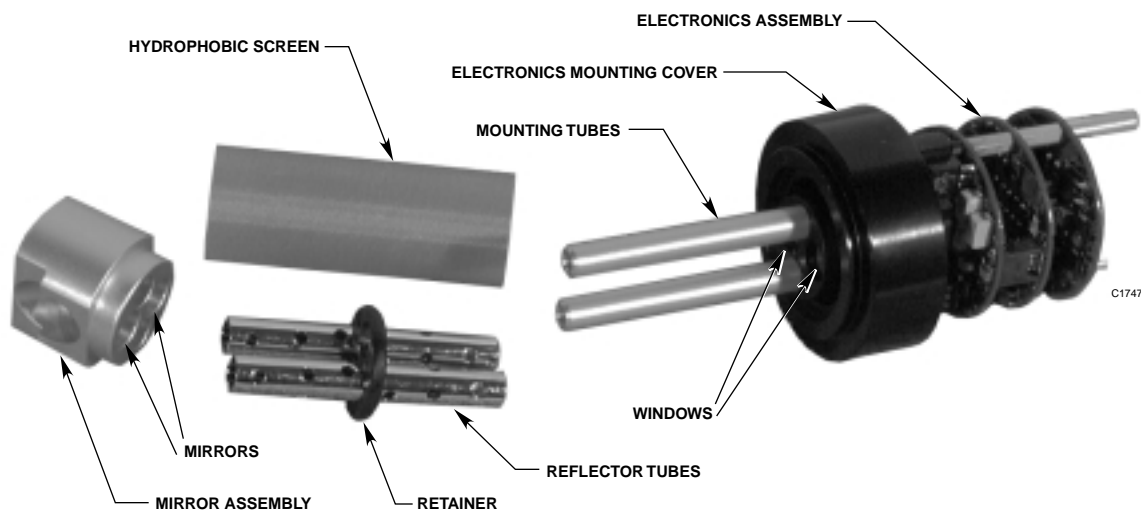
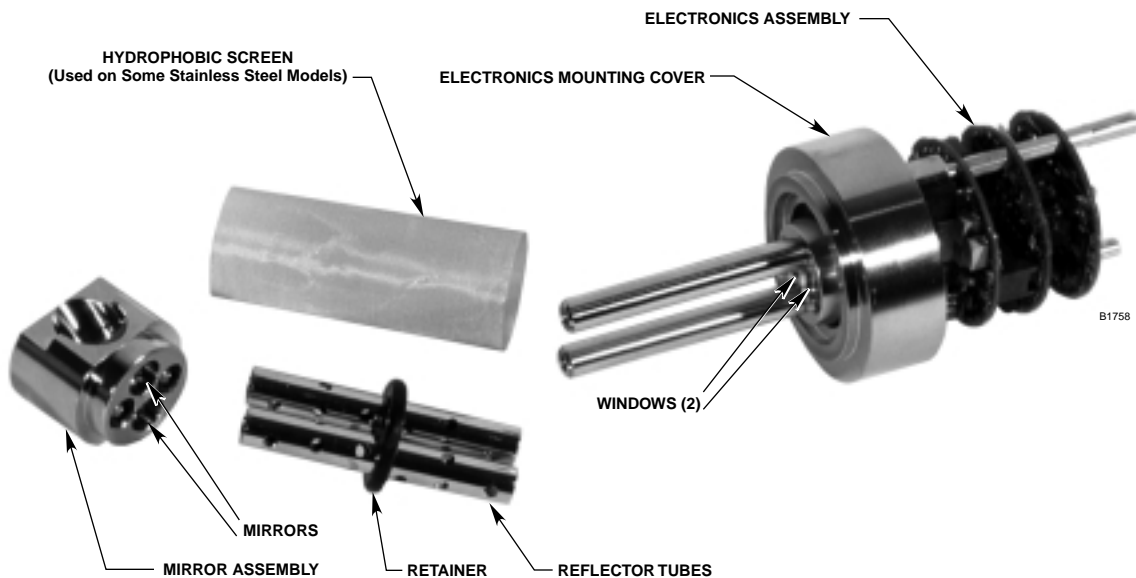

Figure 24—Aluminum PointWatch Detector Disassembly for Cleaning
Figure 25—Stainless Steel PointWatch Detector Disassembly for Cleaning
3. Slide the electronics mounting cover back to the base of the mirror assembly and pull the IR module out of the base as shown in Figure 13. Do not grasp the hydrophobic screen (if used) to pull the IR module from the base as this may damage the screen. Once the IR module assembly is pulled from the base, slide the electronics mounting cover back to the electronics assembly as shown in Figure 24. Place the IR module in an anti-static bag or box and take it to a clean work area for further disassembly.
4. Loosen the two captive screws on top of the mirror assembly (Figure 12) and slide the mirror assembly, hydrophobic screen and reflector tubes away from the electronics assembly and electronics mounting cover. See Figure 24 (aluminum model) and Figure 25 (stainless steel model).
5. Disassemble the mirror assembly, reflector tubes and hydrophobic screen as shown in Figure 24 and Figure 25. Do not remove the electronics mounting cover.